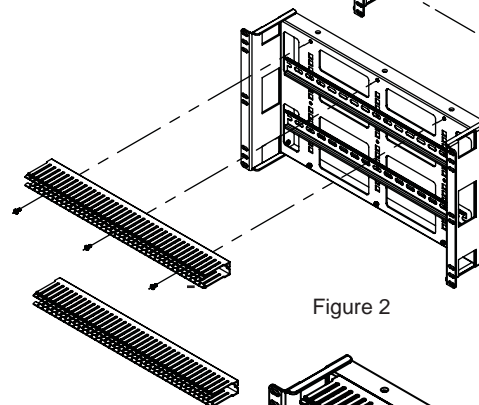

Figure 2
Step 5 Align wire duct's inside open slots with (3) M4 Nuts on the 6U Main Panel. Secure PVC duct to the 6U main panel with (3) M4 x 8 screws. (Figure 2)